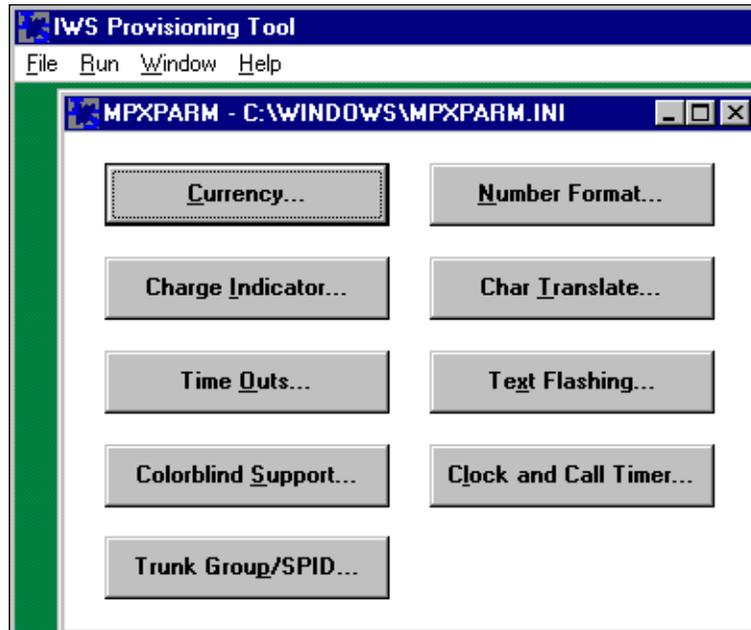

FIGURE 66. Example of the MPXPARM configuration window
3. Select MPXPARM. (See Figure 66.)